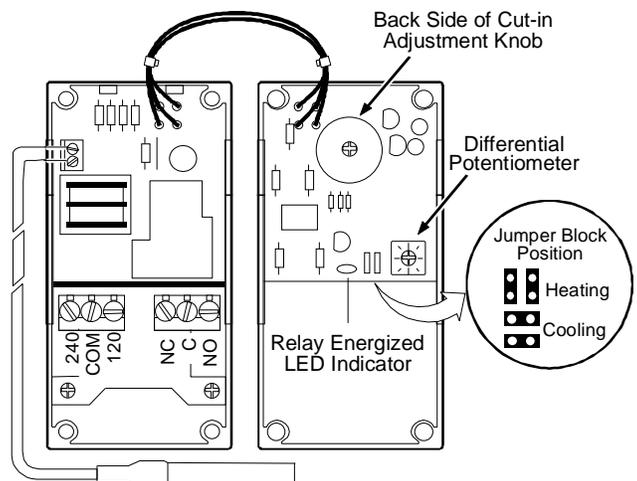

Figure 2: A319 Electronic Temperature Control Board Layout and Terminal Locations
Differential is defined as the change in sensor temperature between relay energize (cut-in) and relay de-energize (cut-out). The differential can be adjusted between 1 and 30°F (0.6 to 17°C) for the A319ABC-12 and -24 models, and between 1 and 15°F (0.5 to 8°C) for the A319ABC-07 model. Adjust the potentiometer (marked DIFF.) to set the differential. Refer to Figure 2 for potentiometer location.
Models A319ABC-24 and A319ABC-07 are shipped with the heating/cooling jumper blocks installed in the horizontal cooling position. Model A319ABC-12 is shipped with the jumper blocks installed in the vertical heating position (refer to Figure 2).
- Connect the sensor to the terminal strip located at the top left of the printed circuit board (Figure 2). The sensor leads are interchangeable.
2. Set the heating/cooling jumper blocks to the desired mode of operation. Position the jumper blocks vertically for heating or horizontally for cooling (refer to Figure 2).
- a) Select AC volts on a voltmeter and connect it between the "AC COM" and "120V" (or "240V") terminals located on the terminal block below the relay (Figure 2).